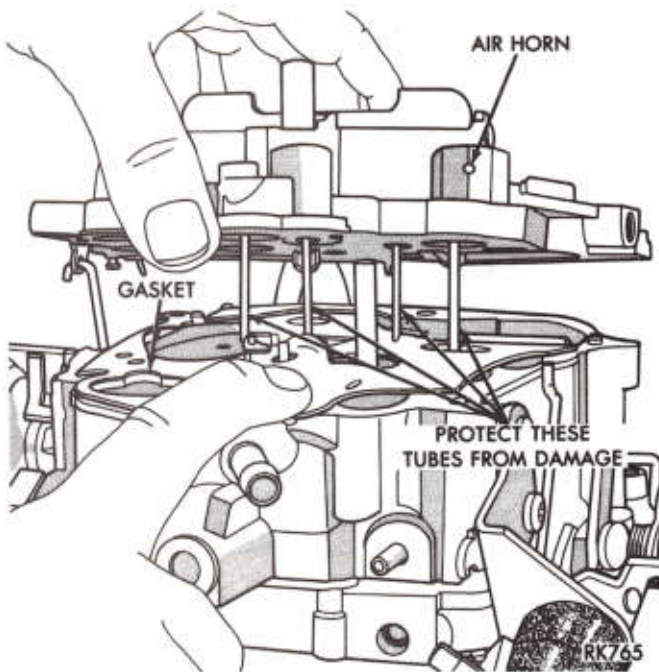

Fig. 14—Removing Air Horn
- (7) Remove air horn from float bowl by lifting it straight up. The air horn gasket should remain on the float bowl. Use care not to damage the small tubes attached to the air horn. These tubes are permanently attached to the air horn (Fig. 14).